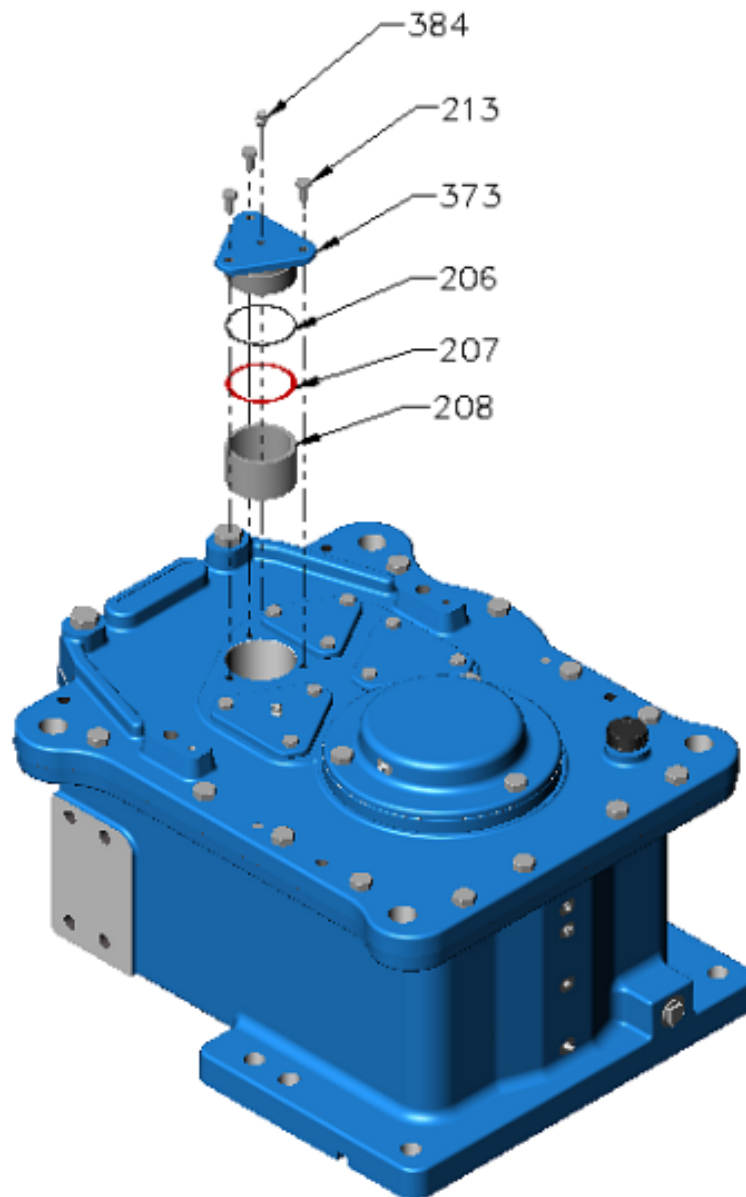

Figure 4 – First Intermediate Cap
F. At first intermediate shaft, remove the following items (Refer Figure 4):